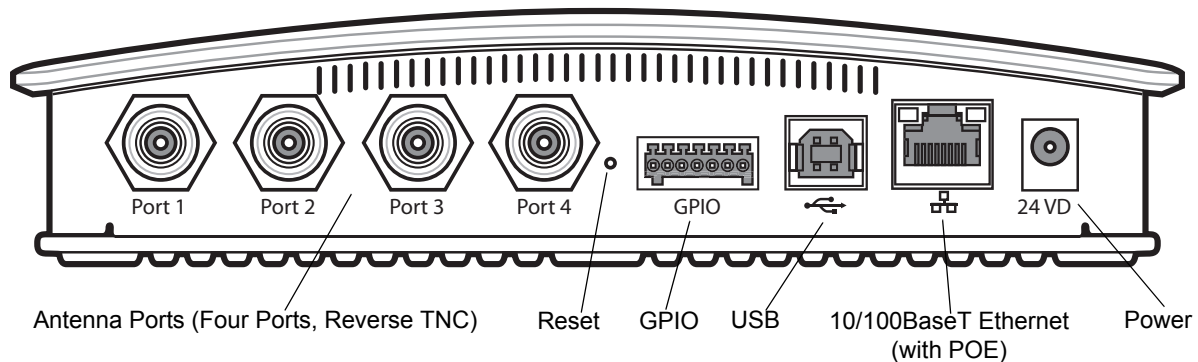

Figure 1-1 FX Series RFID Reader Rear Panel Connections
3. Connect the antenna to antenna Port 1. See Figure 1-1.
4. Connect the AC power supply to a power outlet and connect to the power port. See Figure 1-1.
6. Connect the Ethernet cable to the Ethernet port. See Figure 1-1.